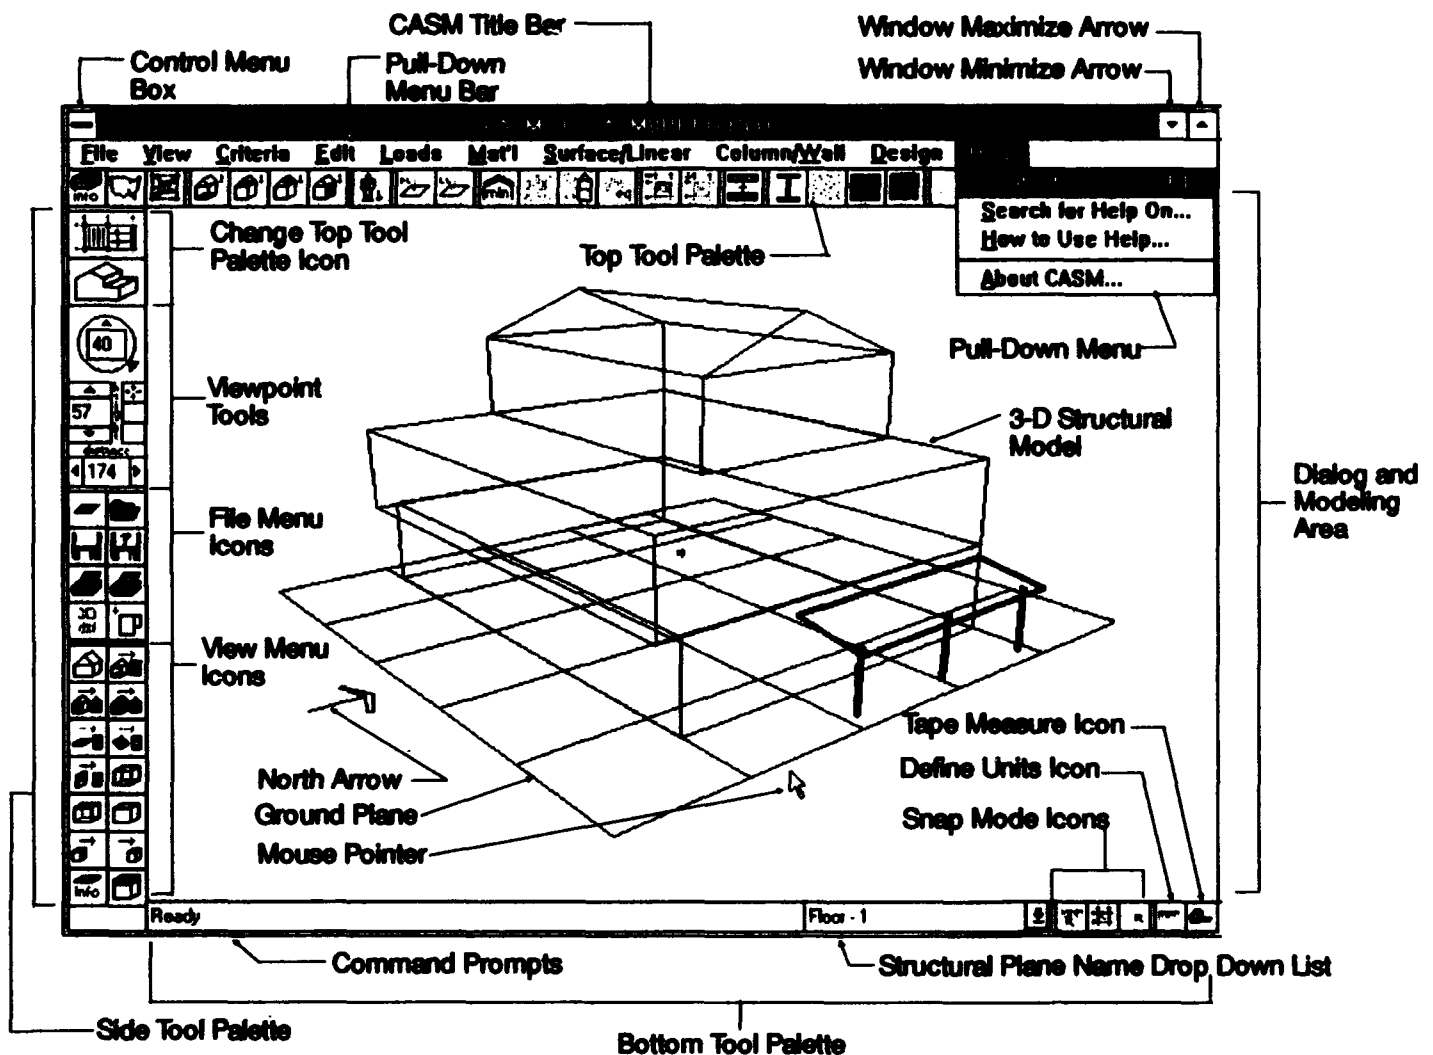

Figure 3.1. Single-Monitor System Screen Display.
An hourglass will appear while the CASM program is loading into the computer memory. The hourglass symbol will remain on the screen until the CASM program is fully loaded. After the CASM program has loaded: The monitor will display both the program window and the ground plane. Please refer to Figure 3.1 in the CASM Program Window section.
An hourglass will appear while the CASM program is loading into the computer memory. The hourglass symbol will remain on the screen until the CASM program is fully loaded. After the CASM program has loaded, the monitor (EGA or VGA) will display both the program window and the ground grid. Please refer to Figure 3.1.
The CASM program window provides you with a variety of command menuing options. You may use the keyboard to activate the commands in the menus; however, the program is much easier to use if you have a mouse. There are two CASM Window display options depending on your hardware configuration. The single-monitor option is displayed in Figure 3.1. The single-monitor configuration is used for a single EGA or VGA graphics card and monitor. The dual-monitor configuration is used for a primary monitor consisting of a monochrome, EGA, or VGA graphics card and monitor and a secondary monitor consisting of a high-resolution Matrox SM graphics card and high-resolution, multi-sync, large-screen monitor. All of the CASM program window elements are displayed in the following figures. Following this figure are brief definitions of the program window elements.
- Pop-up Dialog Windows in the Dialog and Modeling Area (not shown in Figure 3.1) permit you to make data selections and enter data. Move the mouse pointer to select the data/input selection box or use the Tab key to make selections and the [Spacebar] to activate the selection. Pressing the [Enter] key will save the selections and close the window. Pressing [Esc] will cancel the dialog window.
- The Icon Area is the location at the bottom left corner of the VGA screen (not shown in figure 3-1) where icons representing active programs are stored for reference and ease of access. To activate a program icon, move the mouse pointer to the icon and double click the left mouse key. The Icon Area will not be visible until you Minimize or Restore the CASM window.
- The Program Manager Icon (not shown in figure 3.1) represents the Windows Program Manager program. It will only be displayed if the Program Manager program window has been minimized.